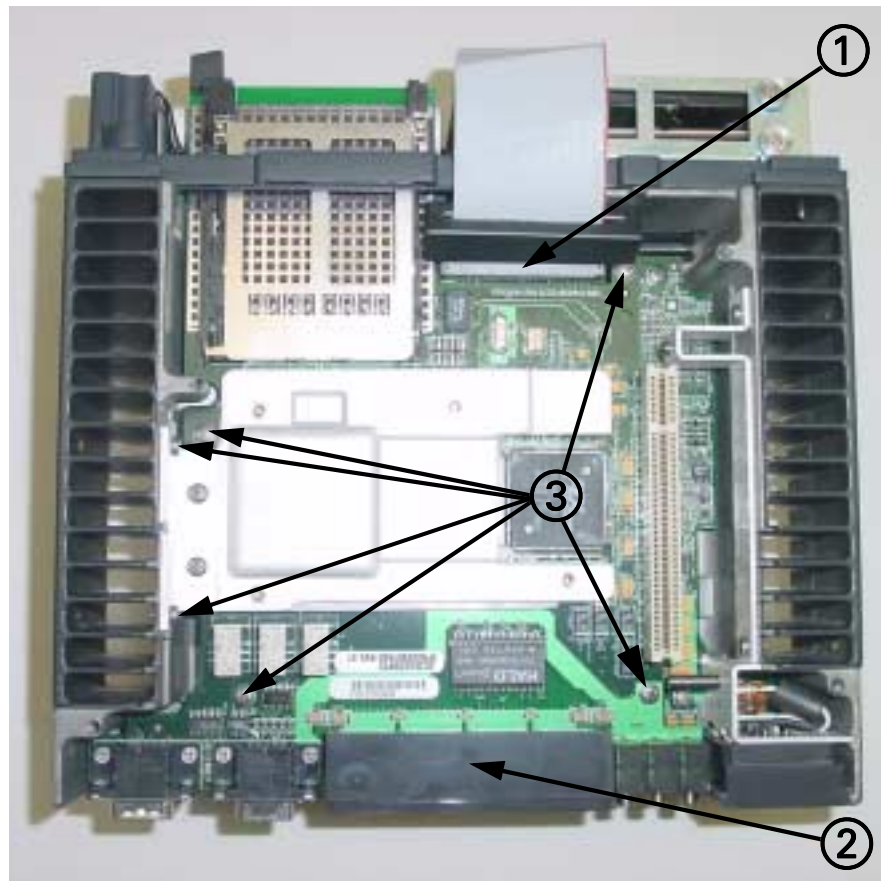

Figure 18-8 MDS (top cover removed)
1. Unplug ribbon cable connector (① in Figure 18-8) from mother board, and fold back.
2. Remove and save plastic ethernet cover (② in Figure 18-8).
3. Remove and save 6 Phillips-head screws (③ in Figure 18-8) that secure daughter board to mother board.